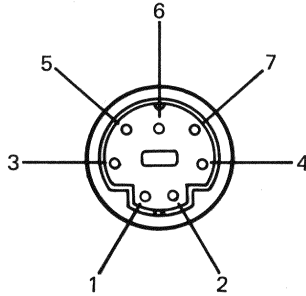

Figure 1-18 Mouse Connector Pin Assignments
1.4.3.1 Mouse Connector Pin Assignments – The mouse uses a 7-pin micro-DIN-type connector. These pins are shown in Figure 1-18. Note that the top of the connector is three pins wide and the bottom is two pins wide. The numbers and names of these pins are listed in Table 1-8.